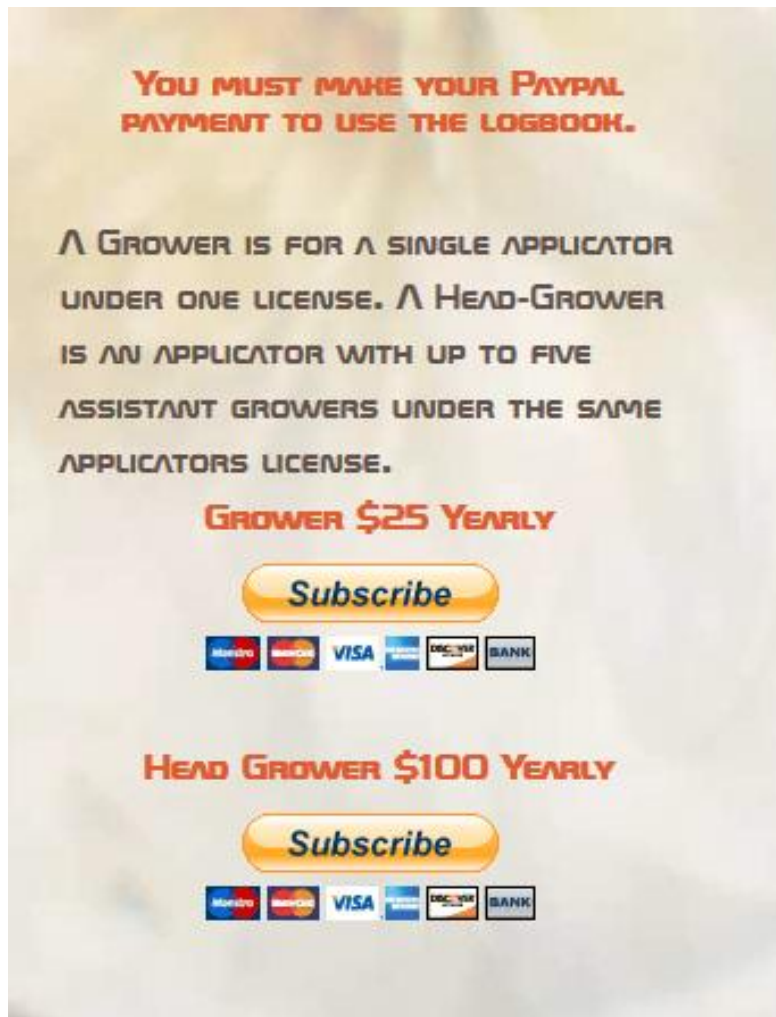

Fig. 1
1. After registering at Pest Logbook.com you will need to submit a Paypal payment to subscribe to the working logbook. You will need a Paypal account to complete the transaction as the Pest Logbook uses a subscription based system to control access. You will be presented with two buttons. (See fig. 1) One for a grower account and one for a Head grower account. A grower account allows one user to use the logbook at one location. A head grower account allows 5 assistant growers at each of the five allowed locations. A head grower account also allows one maintenance and one pest scout user per location.